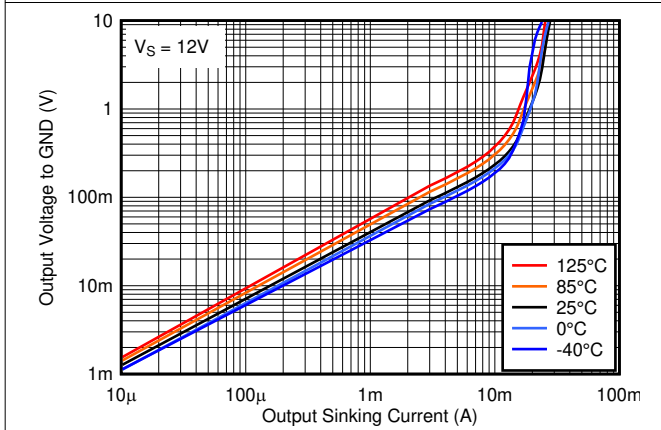

Figure 2-21. Output Low Voltage vs. Output Sinking Current at 12V
Output current is determined by the load/pull-up resistance and logic/pull-up voltage. The output current produces a output low voltage ( $V_{OL}$ ) from the comparator. In which  $V_{OL}$  is proportional to the output current. Use Figure 2-21 to determine  $V_{OL}$  based on the output current.
- $R_{CE}$  can be determine by taking the slope of Figure 2-21 in it's linear region at the desired temperature, or by dividing the  $V_{OL}$  by  $I_{out}$